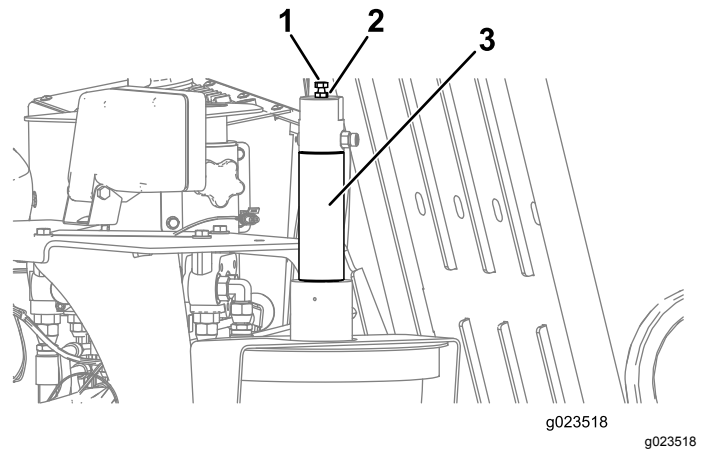

Figure 64
1. Loosen the jam nut on the adjustment bolt located on top of the TJC-applicator piston (Figure 64).